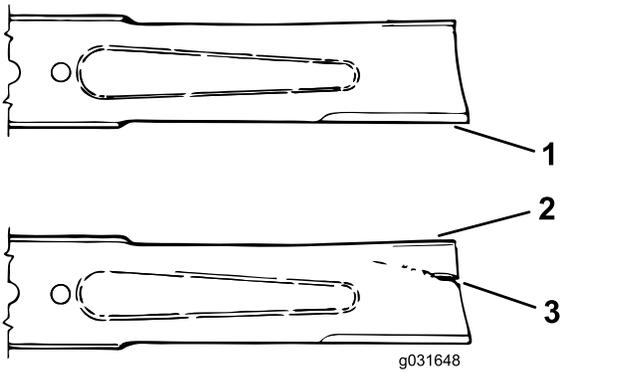

Figure 68
3. Examine the cutting ends of the blade carefully, especially where the flat and curved parts of the blade meet (Figure 68).